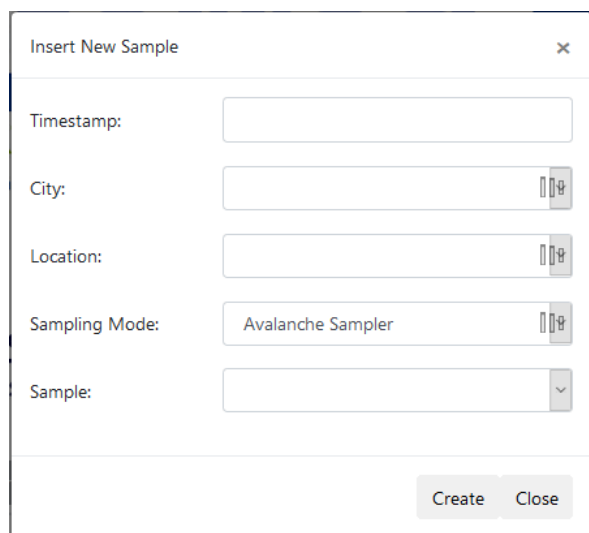

Figure 37 - Insert New Sample form.
1. insert a new sample event by selecting *New Sample Event* on the command bar (Figure 31). In the popup window (Figure 37), the user can enter the date and time of the sampling in